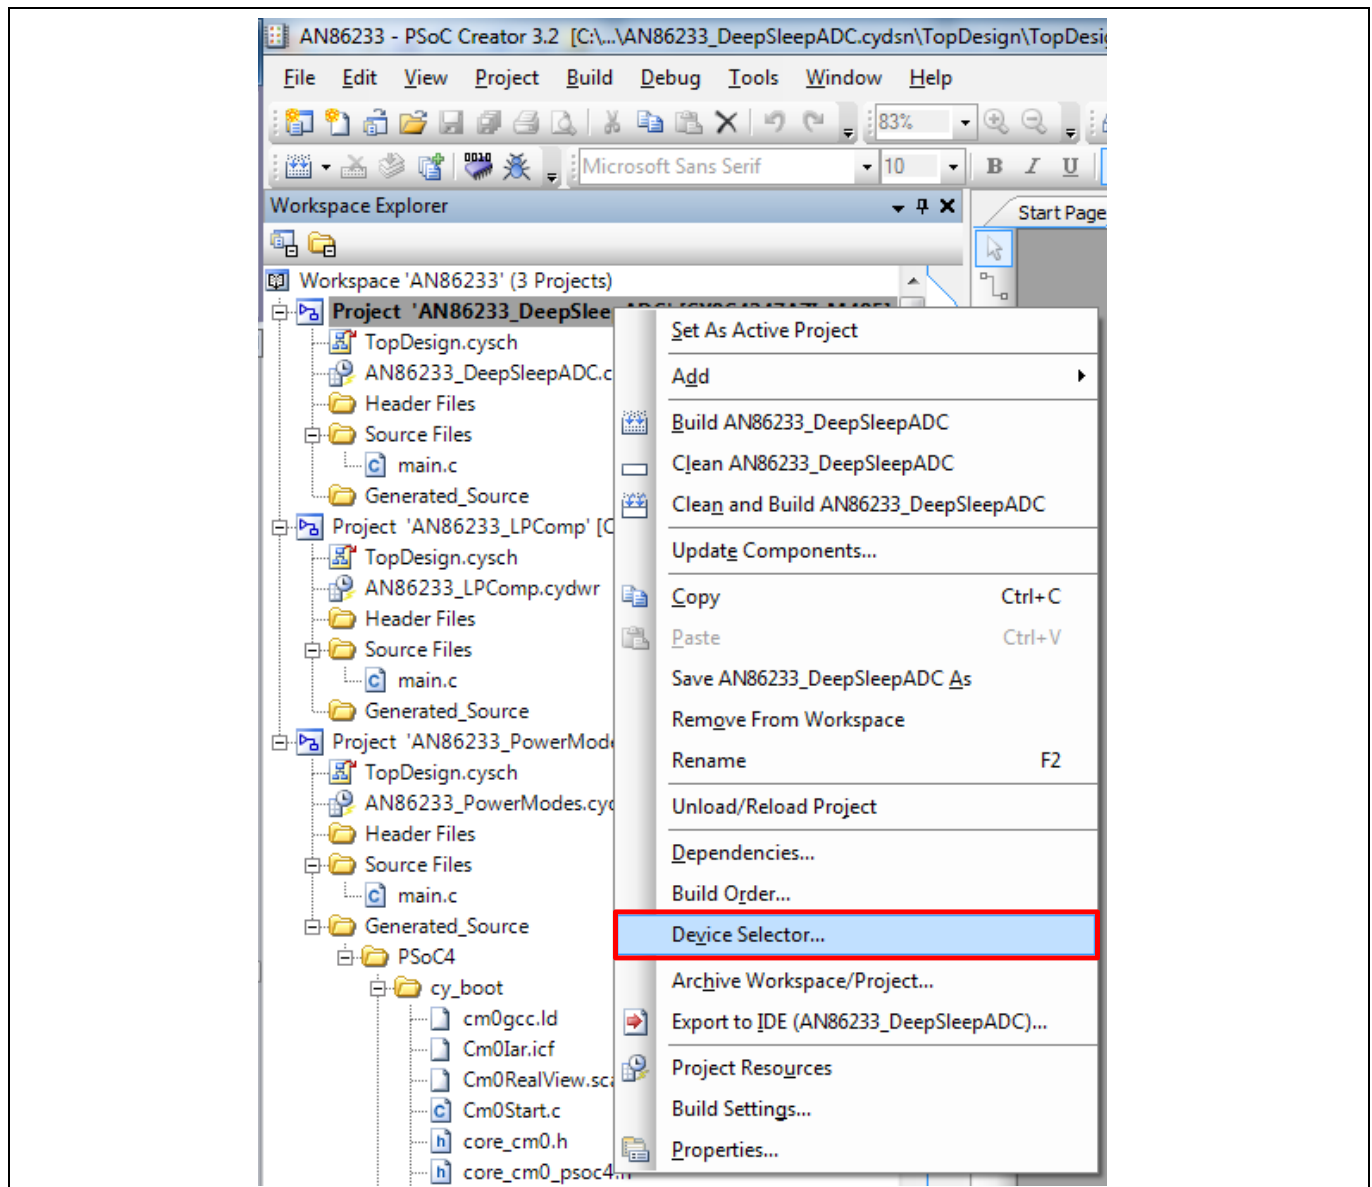

Figure 11 Select the device selector option
2. Select the option **Device selector** from the context menu, as Figure 11 shows.